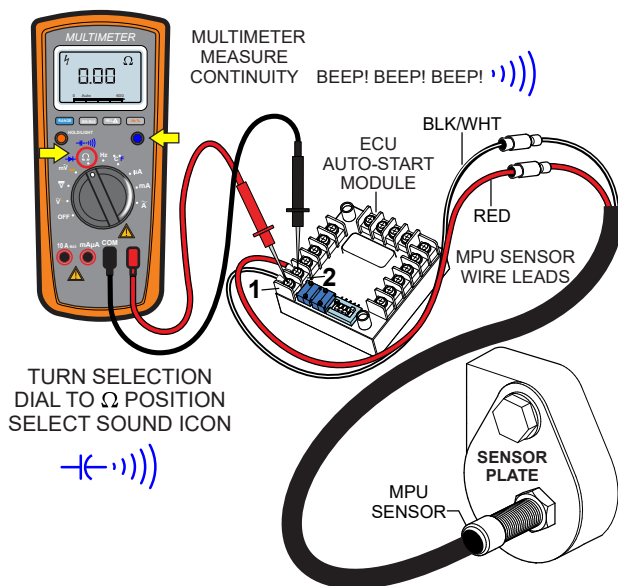

Figure 73. MPU Continuity Test
1. Place the multimeter test leads across pins 1 and 2 on the ECU **auto-start module** as shown in Figure 73.
2. Set the multimeter selection dial to the **sound** position and verify that there is continuity (**beep!**) between the pin 1 (**BLACK/WHITE**) and pin 2 (**RED**) wire leads on the ECU **auto-start module** as referenced in Figure 73.